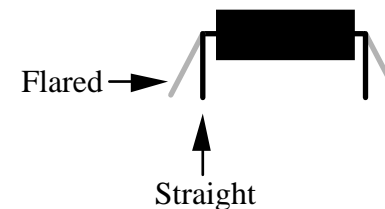

Figure 4-9
When you install ICs in the following steps, always straighten the leads of each IC first as shown in Figure 4-9. The two rows of pins must be straight and parallel to each other to establish the proper pin spacing for insertion into the PC board or socket.
- Straighten the leads of U2 (see Figure 4-9).
- Straighten the pins of U6 (see Figure 4-9). With a large IC such as this, you can hold the IC body at both ends as you re-form each row of pins.